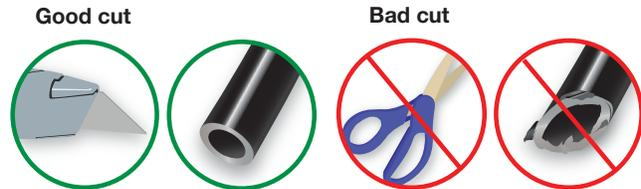

Fig. 24
1. Cut the air line in half. Make clean, square cuts with a razor blade or hose cutter (Fig. 24). Do not use scissors or wire cutters.